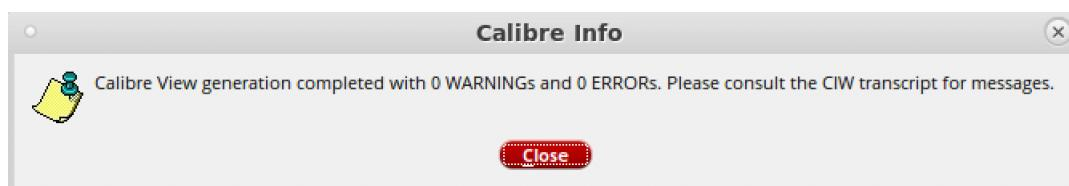

Figure 20: Successful PEX extraction.
6. You should get a pop-up window as shown in Fig. 20 with no warnings.